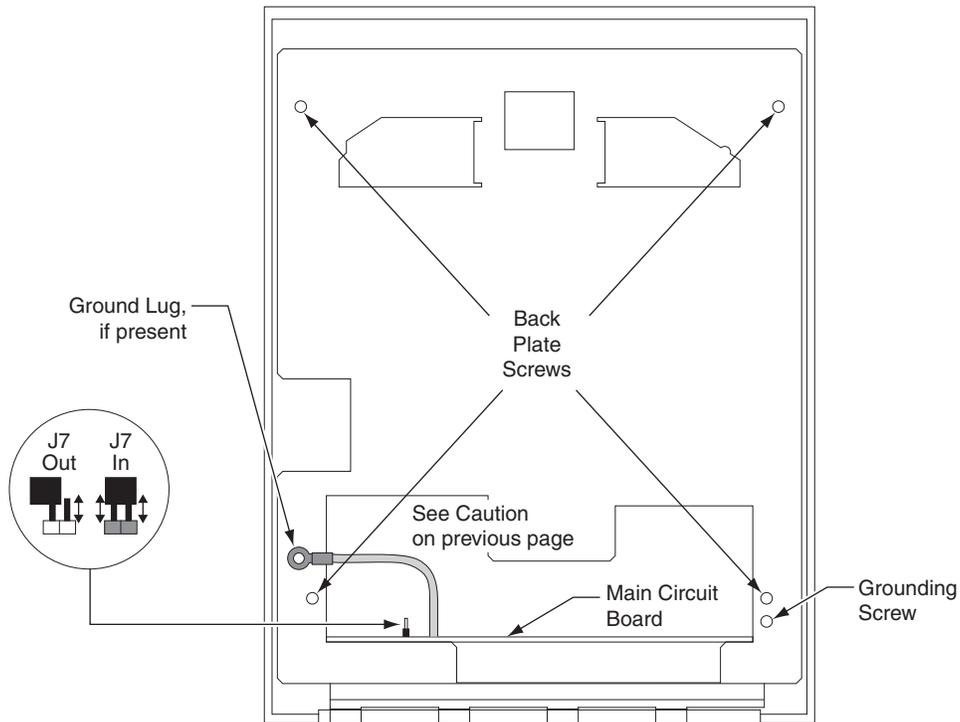
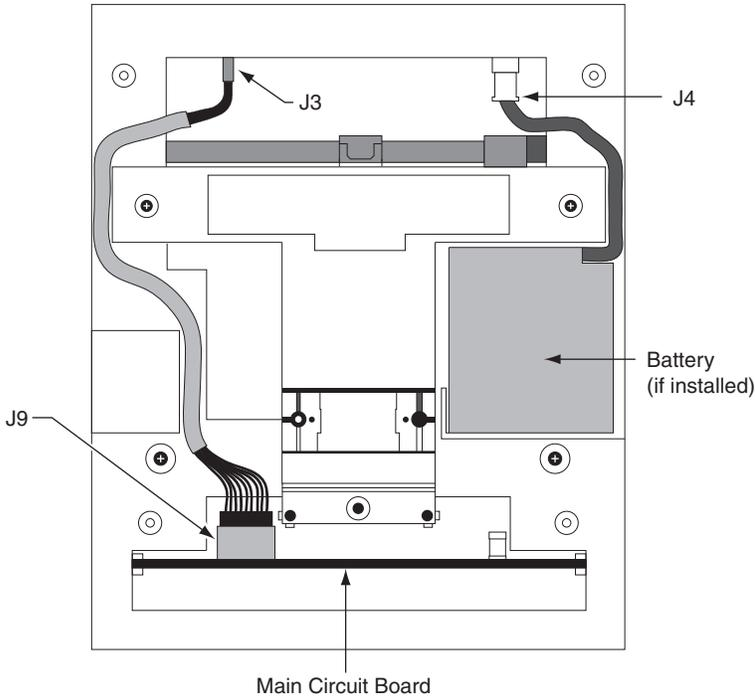

Figure 2
Figure 3
▲ CAUTION: If the unit is equipped with the optional battery backup, remove the J7 jumper before proceeding. See figure 2 on the next page for location of J7.
5. Set the reader on a firm surface such as a table. Remove the four screws that secure the back plate to the HandReader. Remove the grounding screw and/or ground lug (if present). See figure 2 below.
6. Locate the cable that runs from the top panel PCB to the main circuit board. Disconnect this cable from J3 on the top panel PCB. To remove the J3 connector on the top panel PCB, depress the retaining clip on the connector and pull downwards. If the optional battery backup is installed, disconnect the battery cable from J4 on the top panel PCB. See figures 3 and 4 below.
9. Locate the cable that runs from the main circuit board to the top panel PCB. Route the cable as shown in figure 3. Re-insert the connector into J3 on the top panel PCB. Make sure the connector snaps into J3.
CAUTION: If the battery backup option is installed, replace the J7 jumper. Be sure that both pins of J7 are shorted by the jumper. See figure 2. Re-connect the battery cable to J4 on the top panel PCB. See figures 3 and 4.